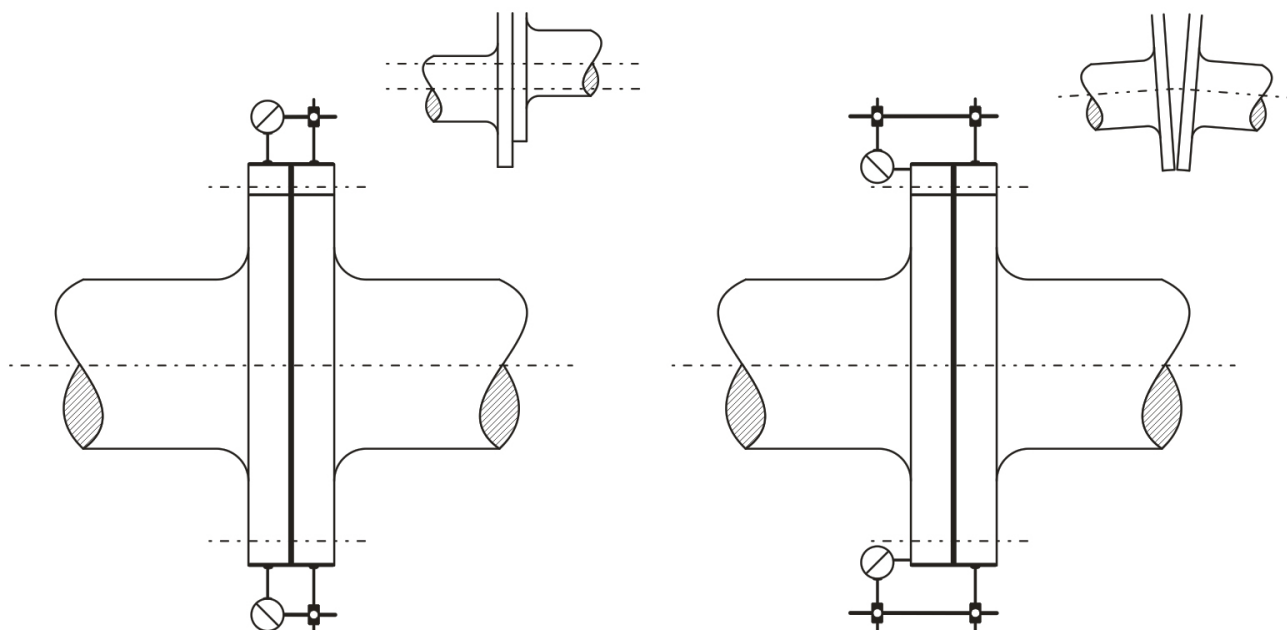

FIGURE 22. ALIGNMENT USING DIAL GAUGES - 1: RADIAL ALIGNMENT, 2: ANGULAR ALIGNMENT
4. If dial gauges are used, their scale must be adjusted so that about half the scale is available in both directions. Check the strength of the dial gauge holder to prevent possible bending, see Figure 22 on page 52.